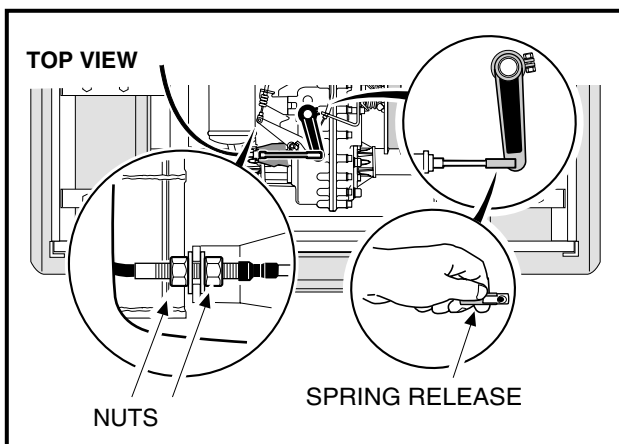

Figure 16b-20 Shifter Cable
6. Remove the lower shock mounting hardware from both rear shocks (**Figure 16b-24, Page 16b-13**).